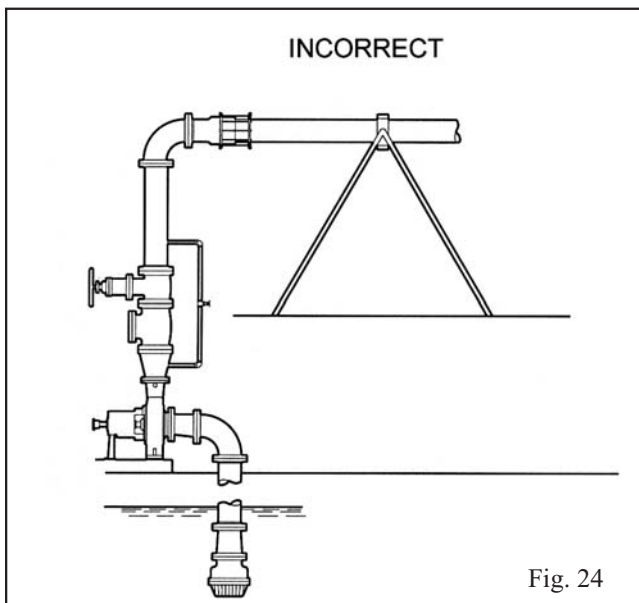

Fig. 24
4. It is suggested that expansion loops or joints, if used, be properly installed in suction and/or discharge lines when handling liquids at elevated temperatures, so linear expansion of piping will not draw pump out of alignment (Fig. 24 & 25).